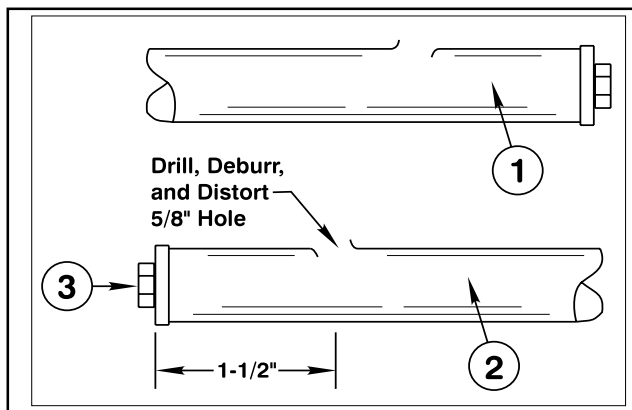

Fig. 6
13. Locate, mark, and drill, (DRILLING THROUGH THE TOP SURFACE ONLY,) one 5/8" dia. hole at 1-1/2" from the plugged end of the right Boom Pipe. Repeat on left Boom Pipe. These holes are used for the installation of the Boom Hoses. (Fig. 6)
14. Using a round file or deburring tool, deburr holes previously drilled into Boom Pipes. (Fig.6)
15. Insert a drift punch into the 5/8" holes in Boom Pipes and distort opening as shown in Fig. 6. This will allow for easier installation of the Boom Hoses.